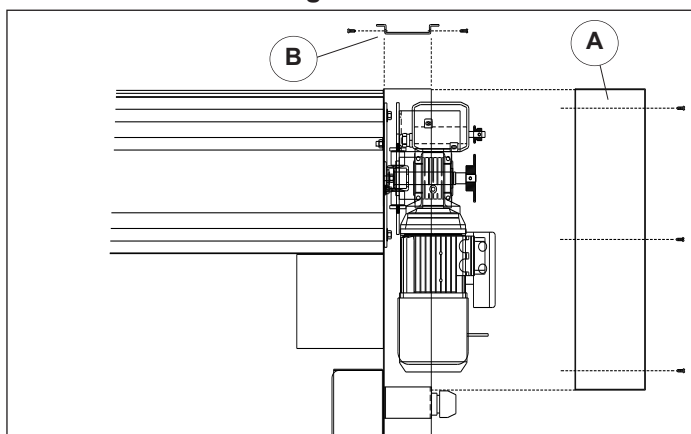

Figure 26.5
1. Locate drive shroud and the hardware from the parts box, Figure 26.5.
2. Fasten to drive sideframe (A) by sliding the back side of shroud under the 3 screws and using the 3 tek screws provided, fasten the front side.